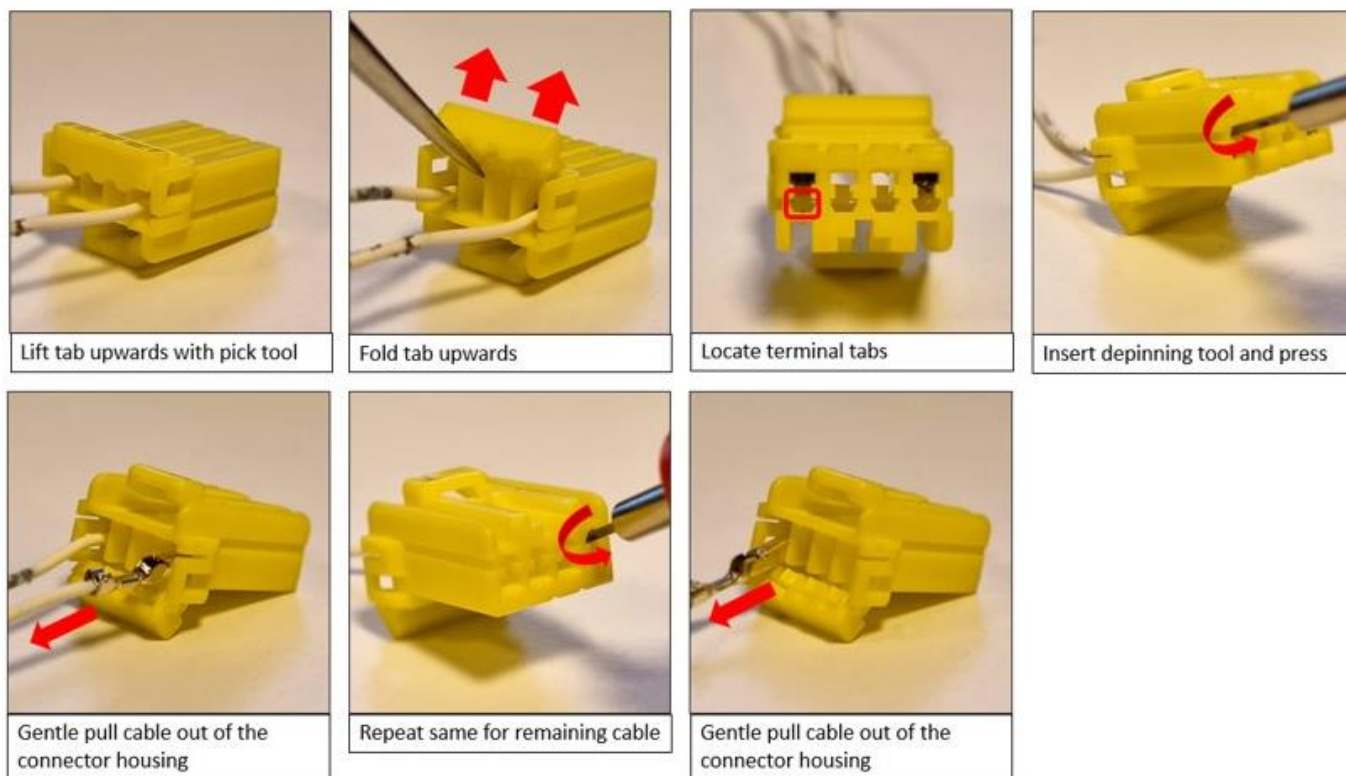

Figure 10
13. Release the terminals from the HV+ sense connector (Figure 10).